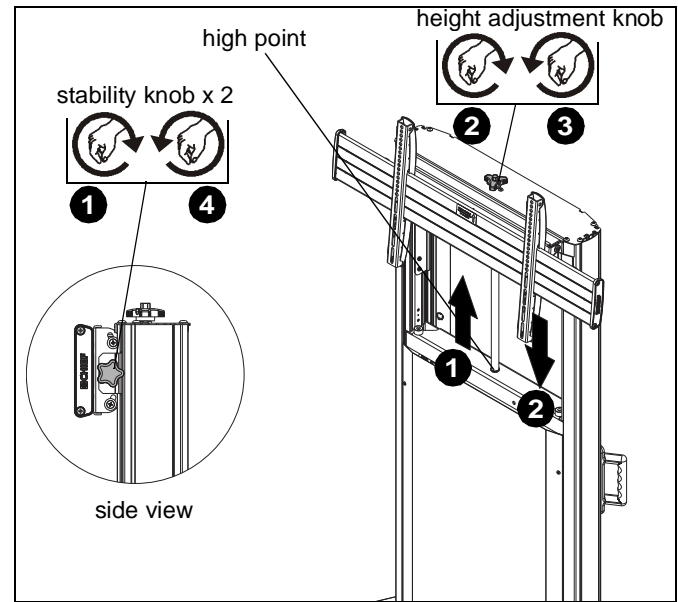

Figure 21
1. Loosen two stability knobs on either side of head assembly. (See Figure 21)
2. Turn height adjustment knob clockwise to raise display. (See Figure 21)
3. Turn height adjustment knob counterclockwise to lower display. (See Figure 21)
WARNING: Do not attempt to raise or lower the adjustment carriage beyond its upper or lower limit. High and low points are shown in Figures 21 and 22.
4. Tighten two stability knobs on either side of head assembly. (See Figure 21)